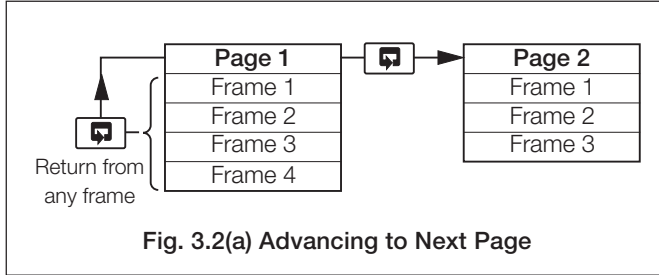

Fig. 3.2(a) Advancing to Next Page
3.2 Use of Controls – Fig. 3.2(a) to (f)